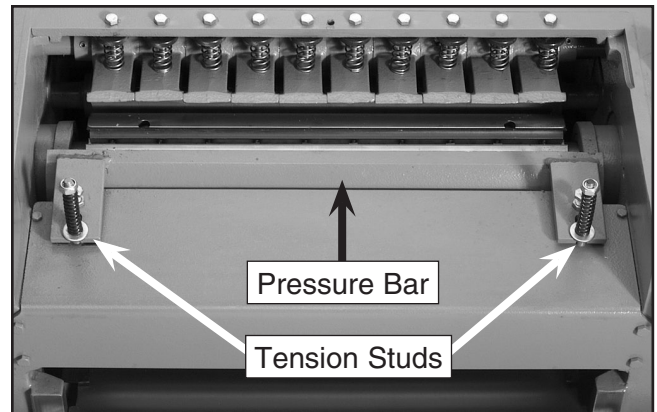

Figure 8. Pressure bar and tension studs.
3. Remove the hex nuts and springs from the tension studs shown in **Figure 8**. This will allow the pressure bar to rotate up and over the cutterhead.